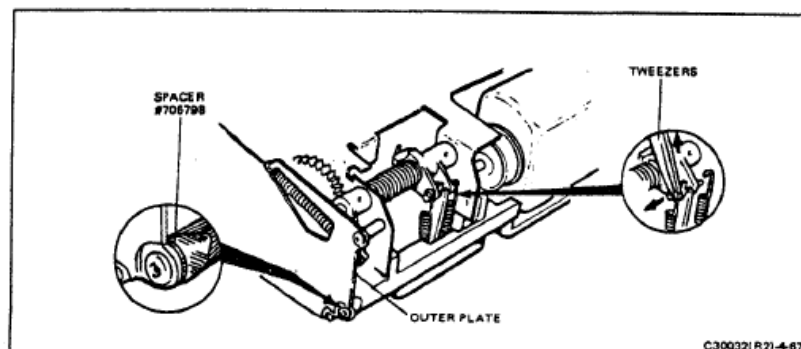

FIGURE 4-67 RECOCK RAM BINDING MODIFICATION
1. Recoek Ram Binding (Refer to Figure 4-67)
To overcome this problem, install a spacer (part number 705798) on the outer plate under the mounting screw shown in Figure 4-67. This shims the outer plate 0.007" away from the inner frame.